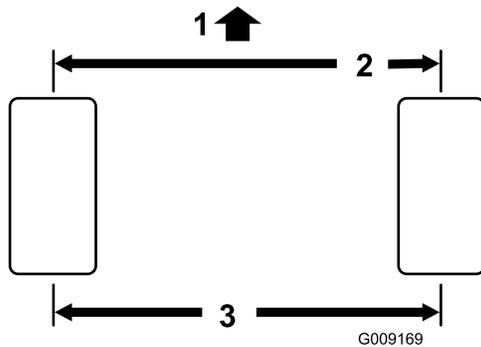

Figure 65
2. Measure the center-to-center distance (at axle height) at the front and rear of the steering tires (Figure 65).